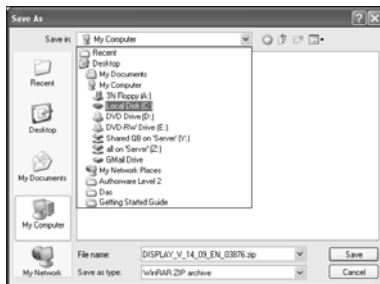

Figure 3-19
8. On the left-hand side, click **My Computer**. Then from the **Save in:** pull-down at the top, select **Local Disk(C:)** (see figure 3-19, and most likely your local drive is the C: drive).